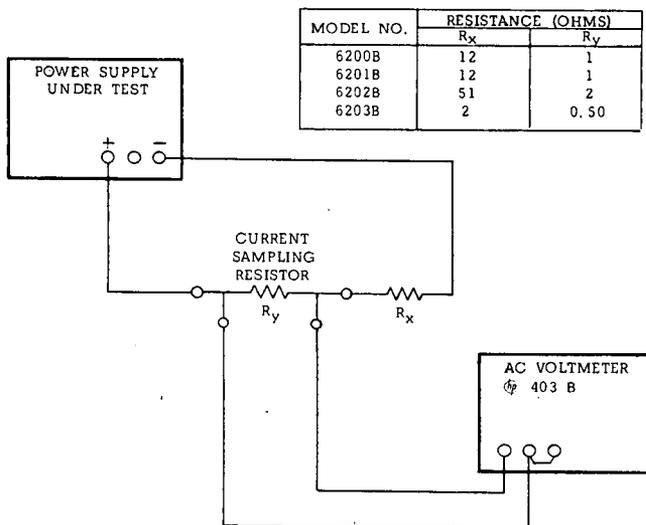

Figure 5-11. Ripple and Noise, Constant Current
- a. Connect test setup shown in Figure 5-11.